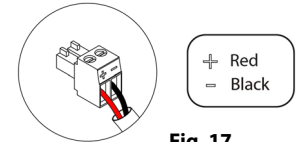

Fig. 17
- ① It is connected to the module through a 2-pin terminal. Attach the wires with the terminal screws following the color code (Fig. 17).